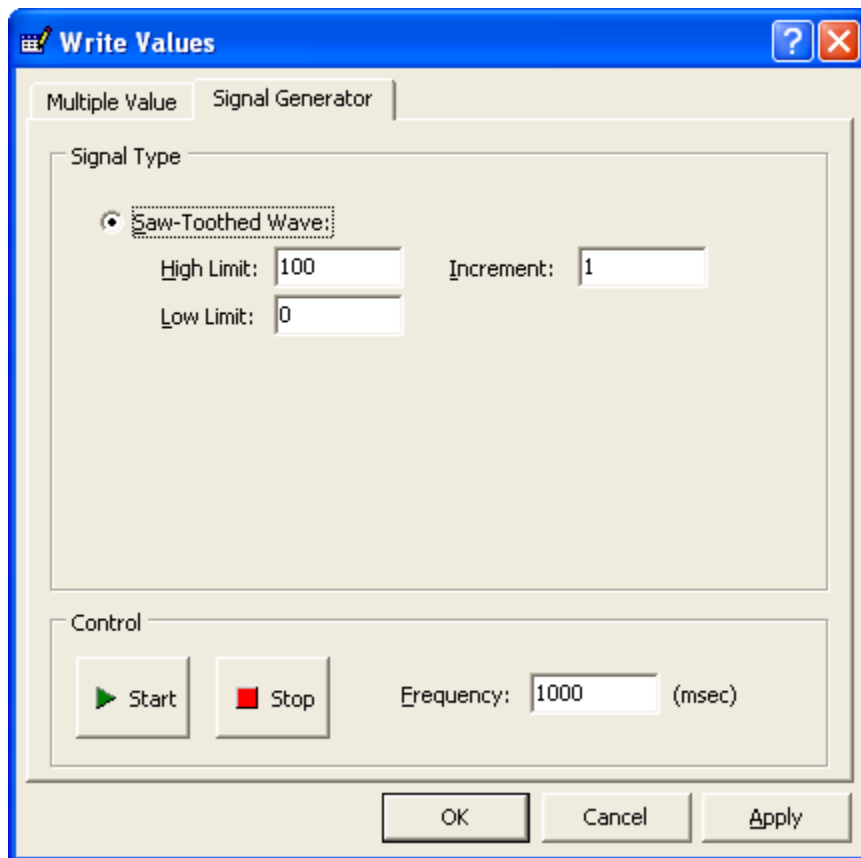

Figure 28 - Write Values Window (Signal Generator Tab)
1. From the **Write Values** window, select the **Signal Generator** tab (Figure 28).